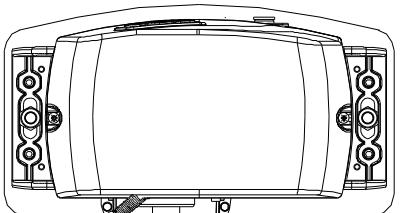
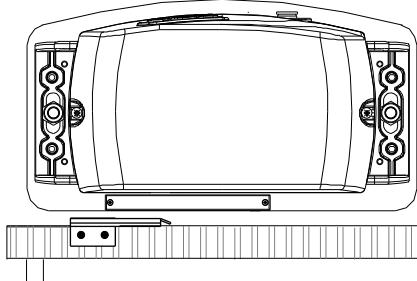
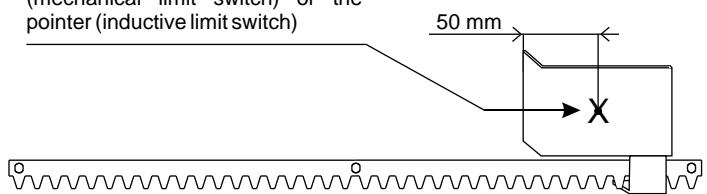

Fig. 14
Fig. 15
Fig. 16
- Place the small plate on the gear rack so that the limit switch is (small lever in case of mechanical limit switch (Fig. 14); small pointers placed on the upper part in case of inductive limit switch (Fig. 15)) in correspondence of pointX which is placed 50 mm from the folded side of the small plate (fig. 16) and fix it with the delivered screws (Fig. 17).
- Place the small plate on the gear rack so that the limit switch is in correspondence of pointX which is placed 50 mm from the folded side of the small plate (fig. 16) and fix it with the delivered screws (Fig. 17).